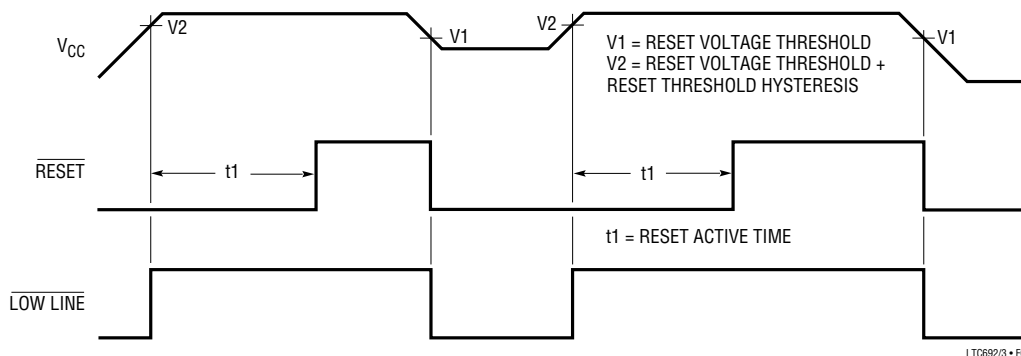

Figure 1. Reset Active Time
**LOW LINE**: Logic Output from Comparator C1. LOW LINE indicates a low line condition at the VCC input. When VCC falls below the reset voltage threshold (4.40V typically), LOW LINE goes low. As soon as VCC rises above the reset voltage threshold, LOW LINE returns high (see Figure 1). LOW LINE goes low when VCC drops below VBATT (see Table 1).
The LTC692/LTC693 use a bandgap voltage reference and a precision voltage comparator C1 to monitor the 5V supply input on  $V_{CC}$  (see BLOCK DIAGRAM). When  $V_{CC}$  falls below the reset voltage threshold, the  $\overline{\text{RESET}}$  output is forced to active low state. The reset voltage threshold accounts for a 10% variation on  $V_{CC}$ , so the  $\overline{\text{RESET}}$  output becomes active low when  $V_{CC}$  falls below 4.50V (4.40V typical). On power-up, the  $\overline{\text{RESET}}$  signal is held active low for a minimum of 140ms after reset voltage threshold is reached to allow the power supply and microprocessor to stabilize. The reset active time is adjustable on the LTC693. On power-down, the  $\overline{\text{RESET}}$  signal remains active low even with  $V_{CC}$  as low as 1V. This capability helps hold the microprocessor in stable shutdown condition. Figure 1 shows the timing diagram of the  $\overline{\text{RESET}}$  signal.